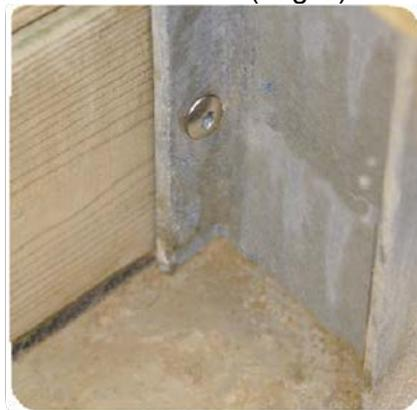

Figure 9 –
- fix them to the 4 supporting braces (these are pre-drilled, as shown in *Figure 9*) using the 36 A2 SS torx hinge screws 6 × 30 (bag D).